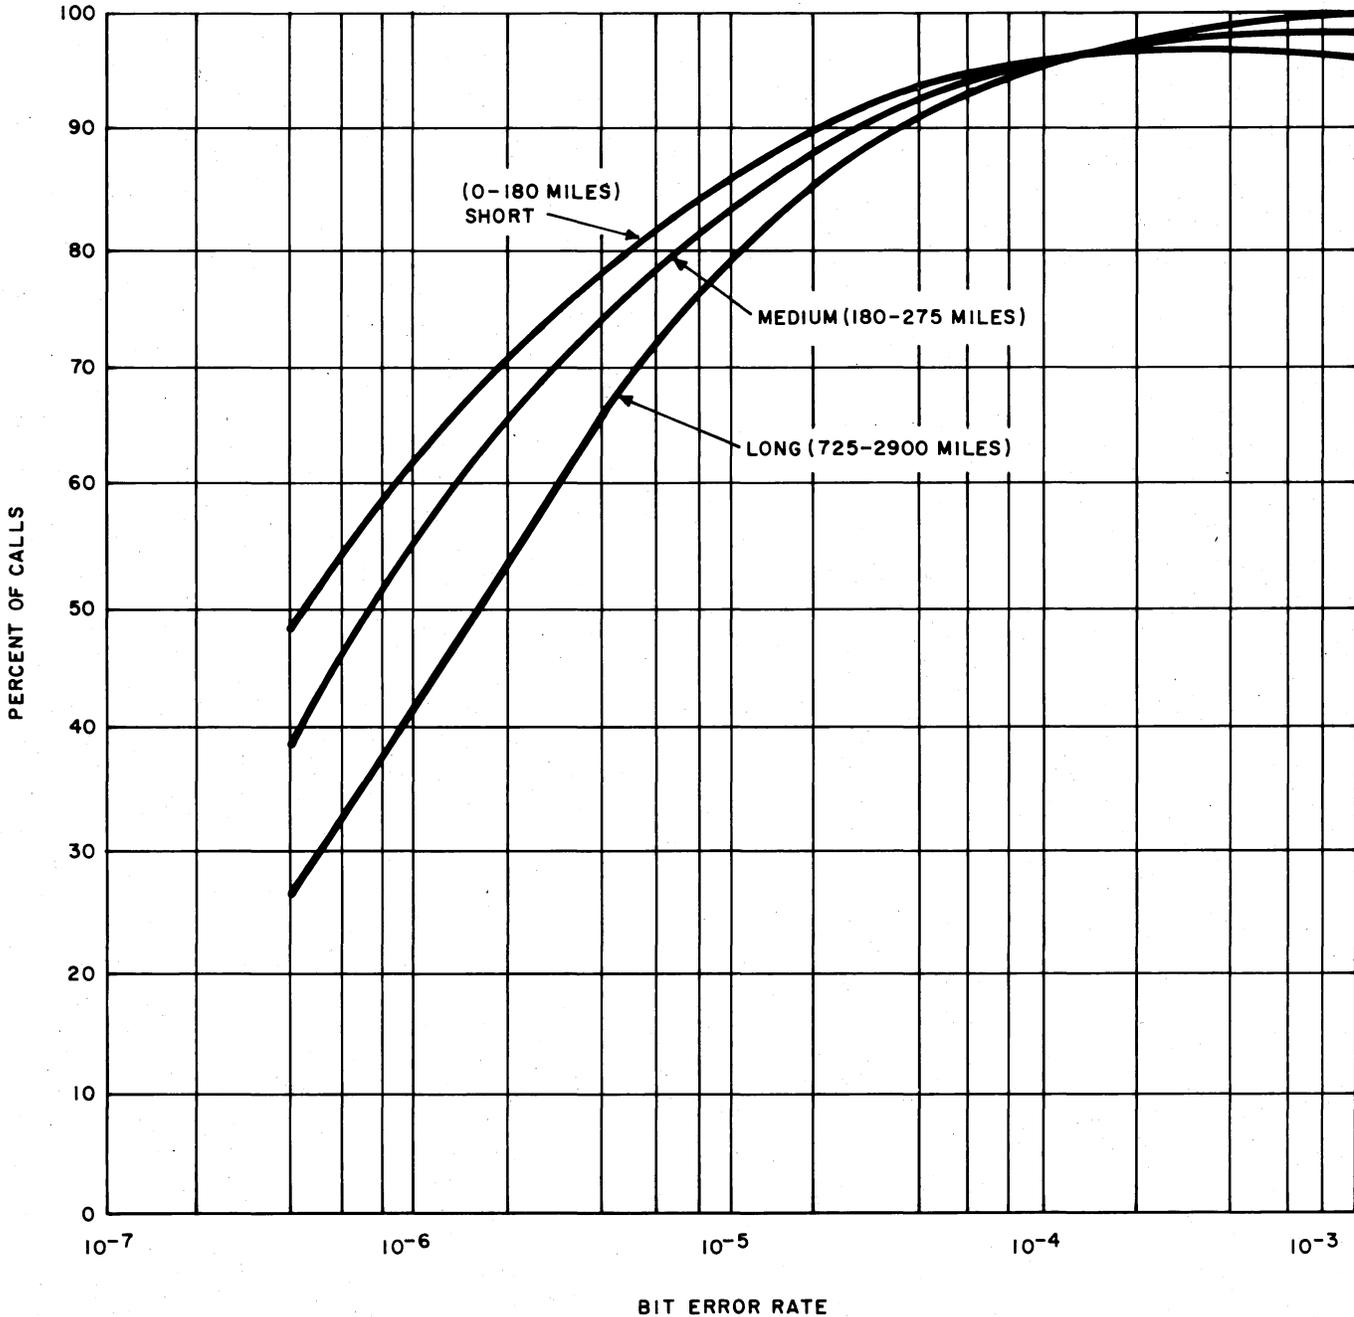

Fig. 8—Switched Telecommunication Network Bit Error Rate Distribution by Mileage Strata at 1200 BPS
**5.07** Expected performance over the switched network is comparable to that of DS 202C, 202D, and 202R. Figures 8 and 9 show bit and block error rates for data sets 202-type based on a 1969-70 Connection Survey conducted by the Bell Telephone Laboratories. The performance data was obtained using DS 202D. However, the performance of DS 202S is comparable to that of DS 202D. It is expected to have better than a  $10^{-2}$  1000-bit block error rate on approximately 90 percent of all connections. A bit error rate of  $10^{-5}$  will be obtained on approximately 82 percent of switched connections.